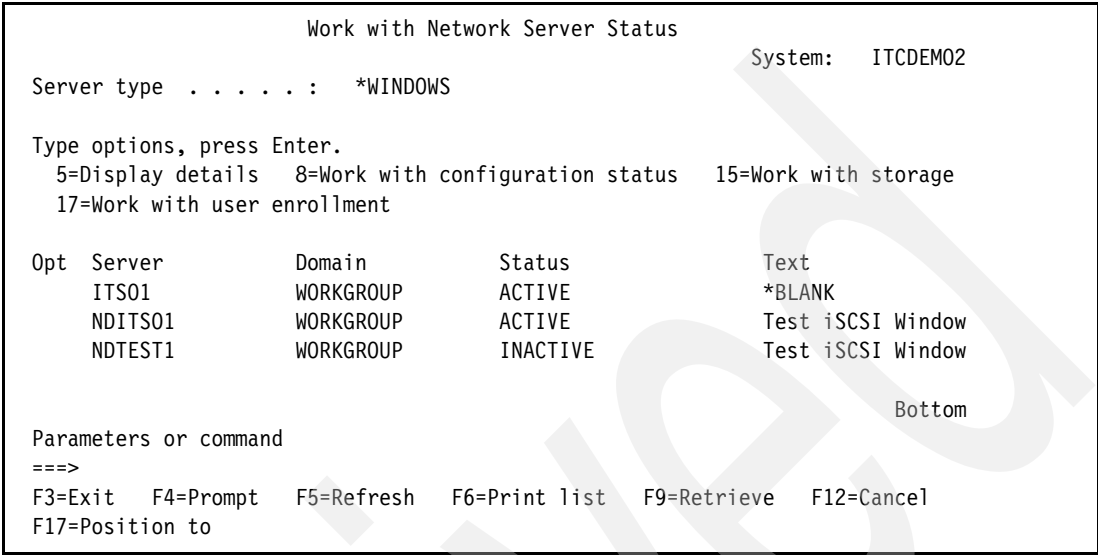
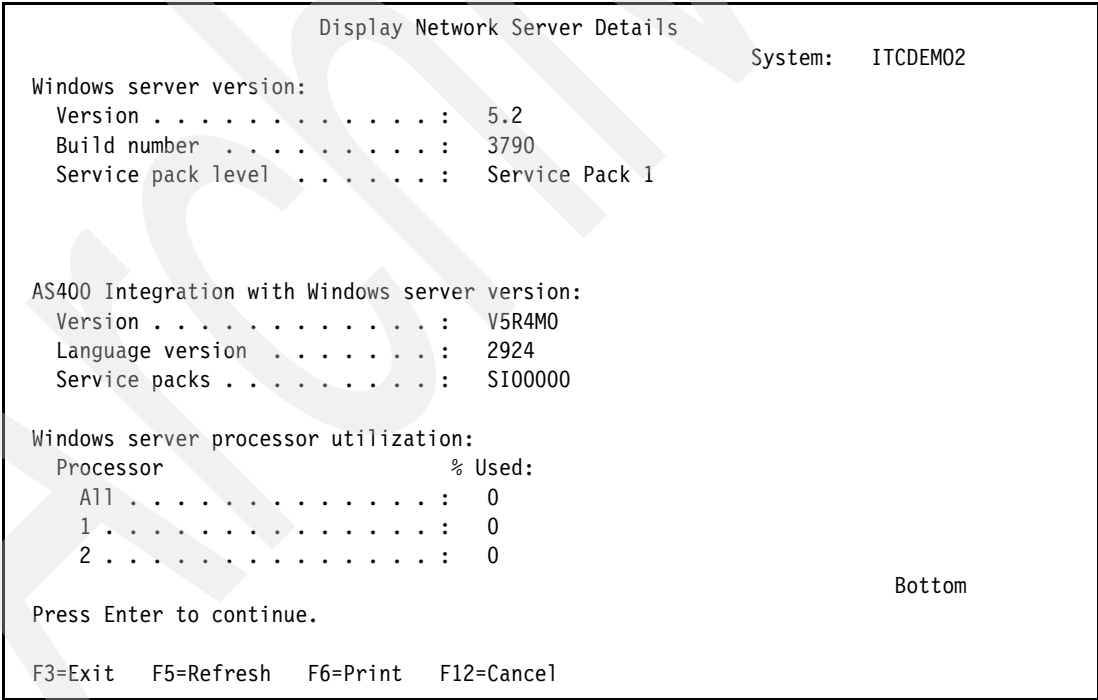

Figure 6-91 WRKNWSSTS display
Figure 6-92 WRKNWSSTS option 5
2. The Work with Network Server Status display appears (Figure 6-91 on page 240 and Figure 6-92 on page 240). This shows the status of the servers, such as inactive, Active, or pending. You can scroll to the integrated server you want to check the status for. A nice option on this window is option 5-Display Details (only valid when the server is active). It shows useful information such as: